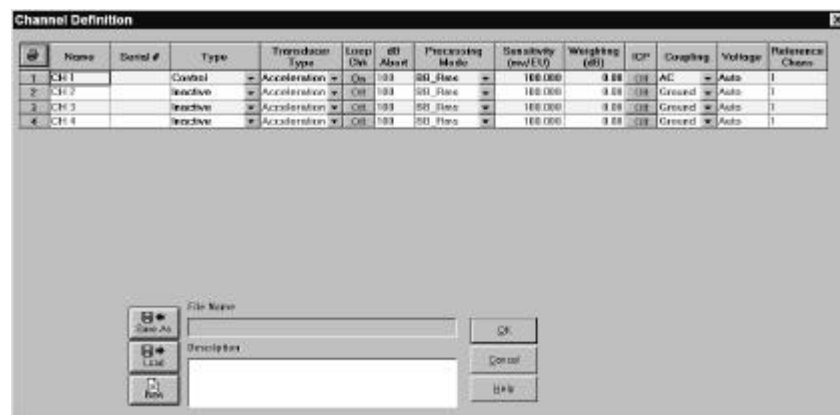
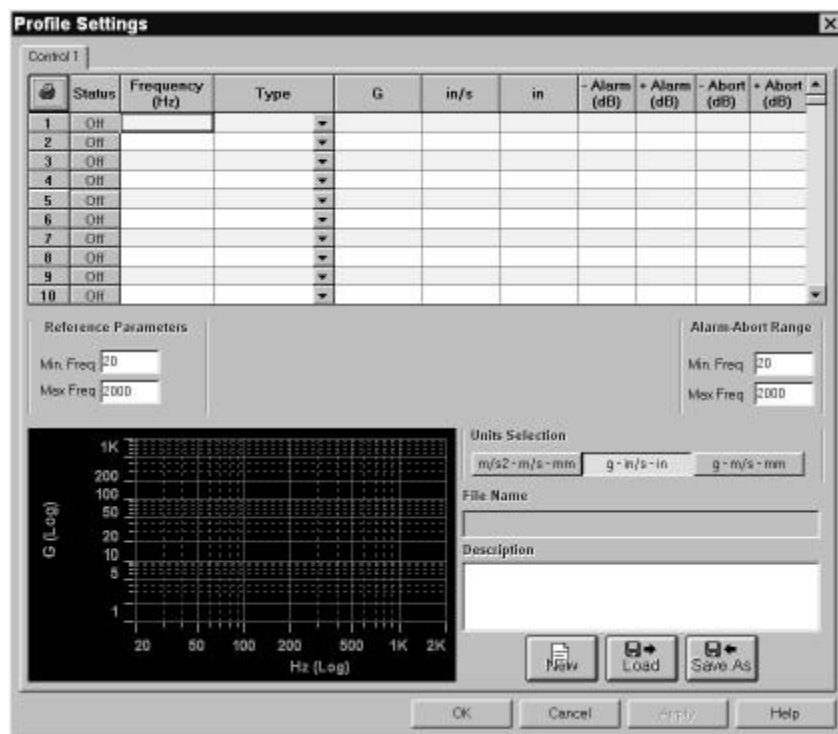

Figure 1-4. Channel Definition Window
Figure 1-5. Profile Settings Window
1. On the PUMA BASIC Local Screen, click **SETUP⇒CHANNELS** or click the <Channel Setup> Button. The Channel Definition Window appears. See Figure 1-4.
3. Click **SETUP**⇒**PROFILES** or click the <Profile Setup> Button. The Profile Settings Window appears. See Figure 1-5.
Throughout PUMA BASIC there is a need to save the parameters of tests, load those same parameters for another test or just start on something brand new. The File Selection Box (FSB) is shown in the lower portion of Figure 1-4, and the lower right hand corner of Figure 1-5. It is a common Windows tool and is used throughout the PUMA BASIC platform though sometimes the format is somewhat different. The components of the FSB are outlined below for the primary setup areas of Channel Definition, Profile Settings and Schedule Setup.